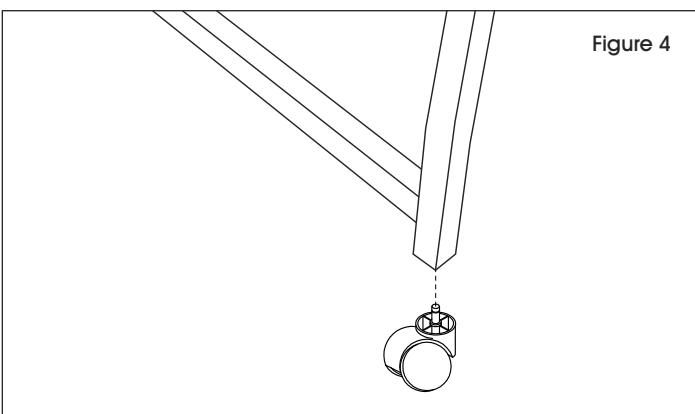

Figure 4
5. Insert casters into pre-drilled holes on the bottom of the A-frame. The two casters with brakes should be placed on the same side of the unit, one on each A-frame. (See Figure 4)